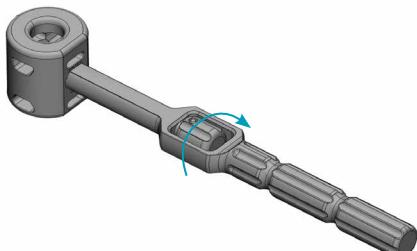

Fig. 5.1
**5.1.** If an off-the-shelf trial is used, attach the inserter to appropriate size trial by placing the prongs of the inserter into the corresponding lateral slots in the trial and rotating the knob clockwise while holding the handle. To remove the inserter, rotate the knob counterclockwise while holding the handle. (fig. 5.1).